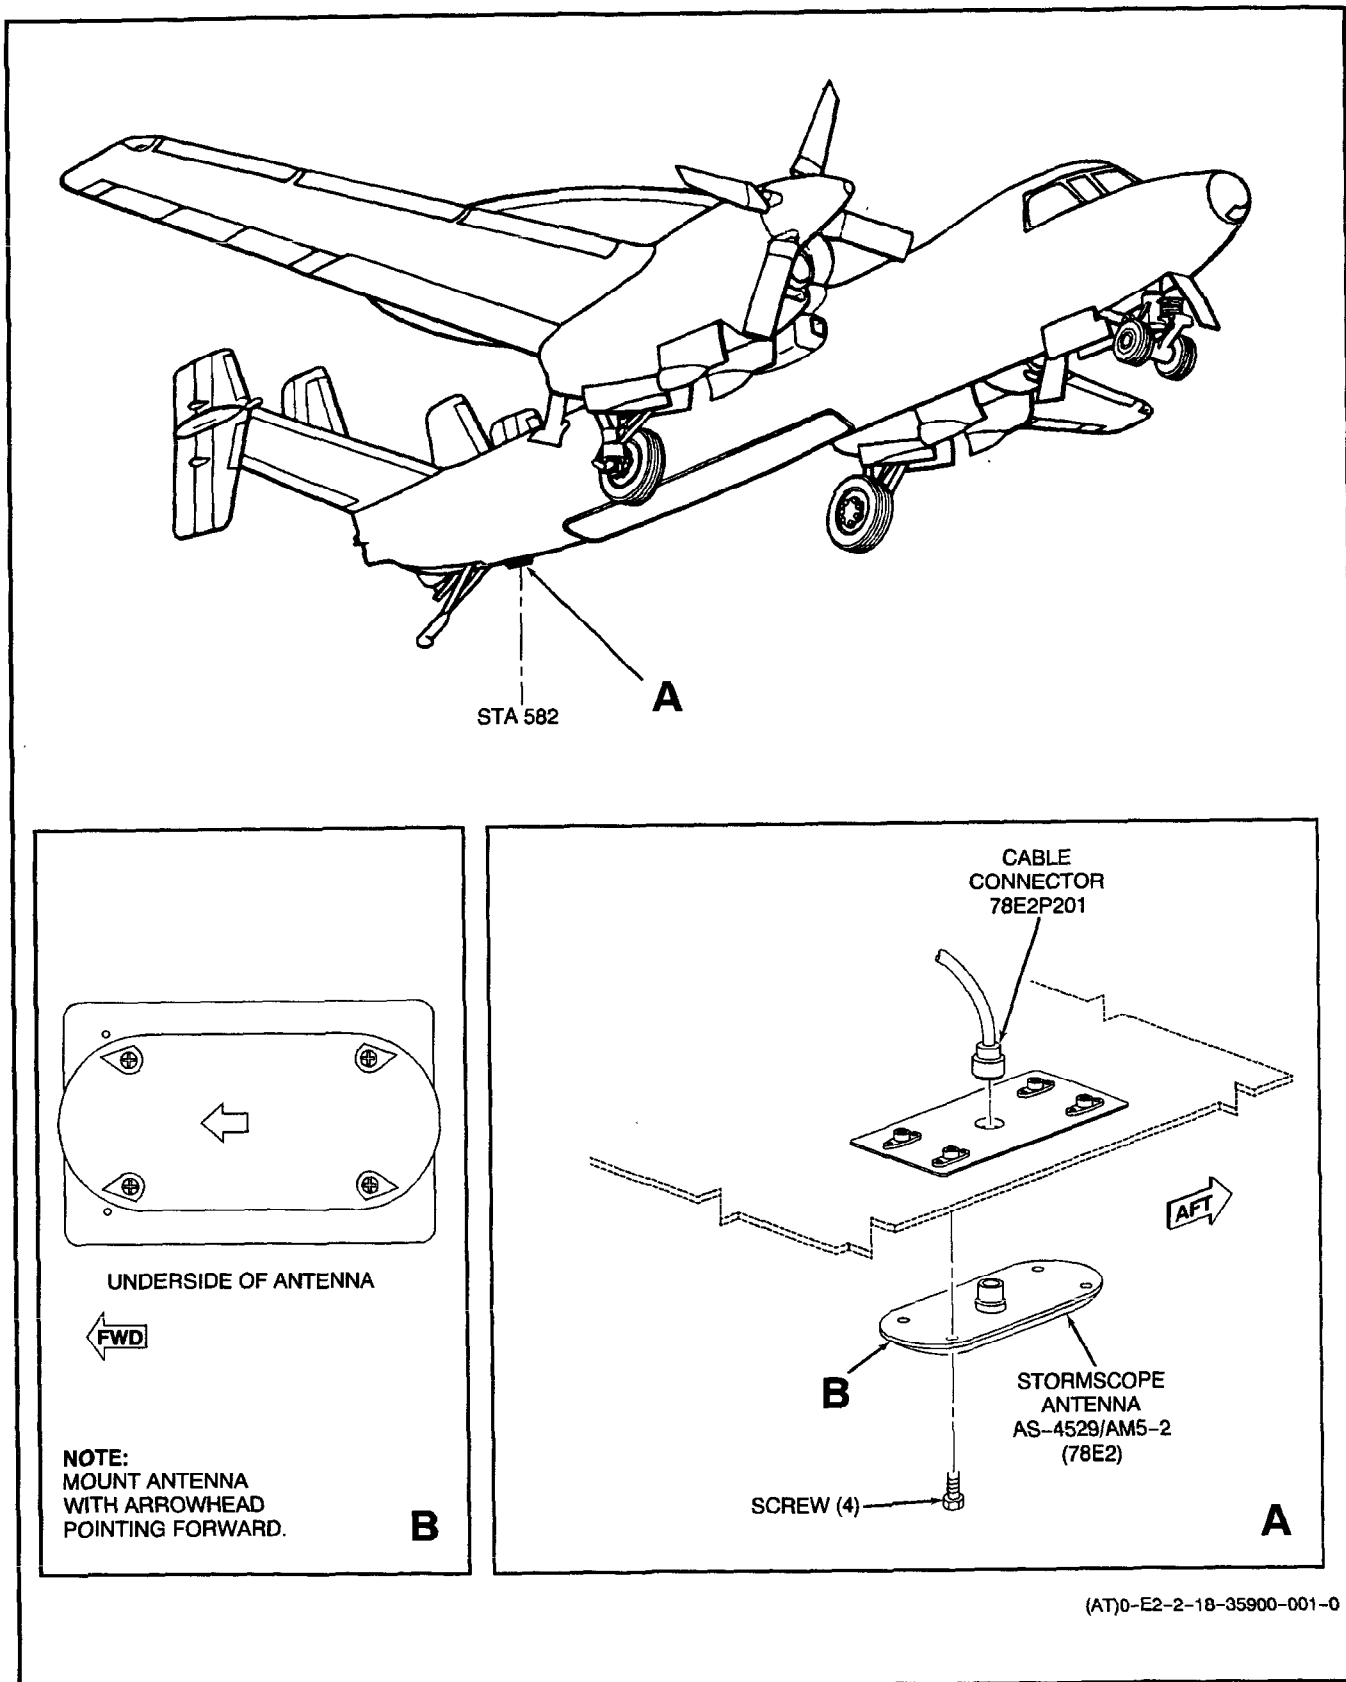

Figure 1. Removal and Installation of Antenna AS-4529/AMS-2
2. Antenna AS-4529/AMS-2, Part No. 78-8051-9200-8 (78E2) (stormscope antenna), is part of Panoramic Data Receiving Set AN/ASM-2. The stormscope antenna is on the bottom centerline of the aircraft at station 582. (See figure 1.)
4. **INSTALLATION.** (Figure 1.)